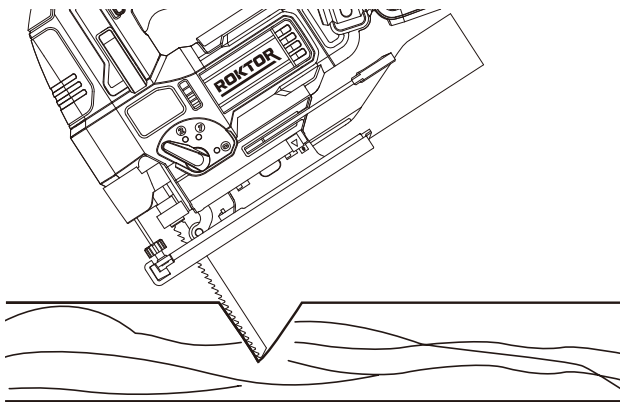

Figure 12-1
7. PLUNGE SAWING (SEE FIG. 12-1 & 12-2)